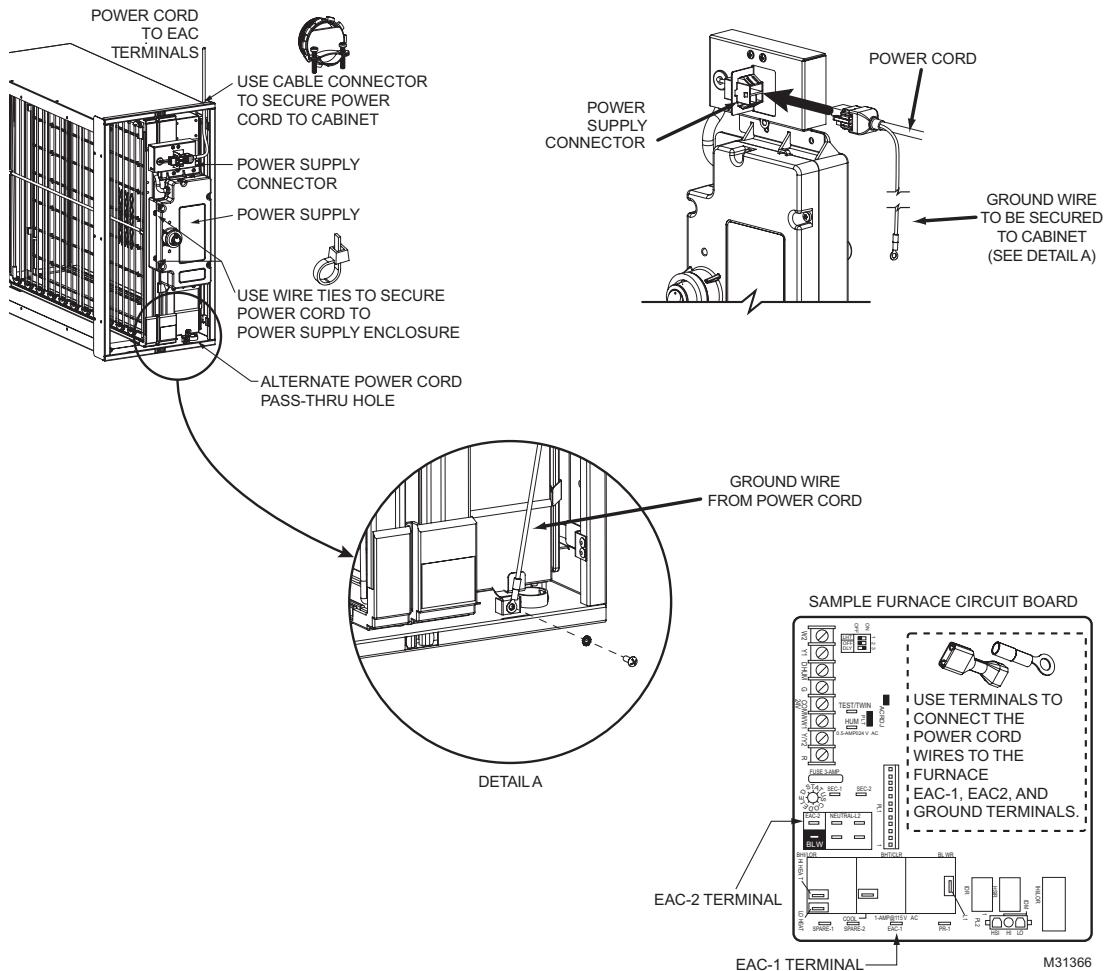

Fig. 15. Electrical connections.
- c. Connect the power cord to the power supply connector (see Fig. 15).
- d. Secure the power cord ground wire to the ground terminal on the cabinet using the screw provided in the ground terminal (see Fig 15).
**Models FH8000F:** Unplug the power cord from the enhancement module (see Fig. 15 on page 17).
**Models FH8000F:** Reconnect the power cord (see Fig. 15 on page 17).